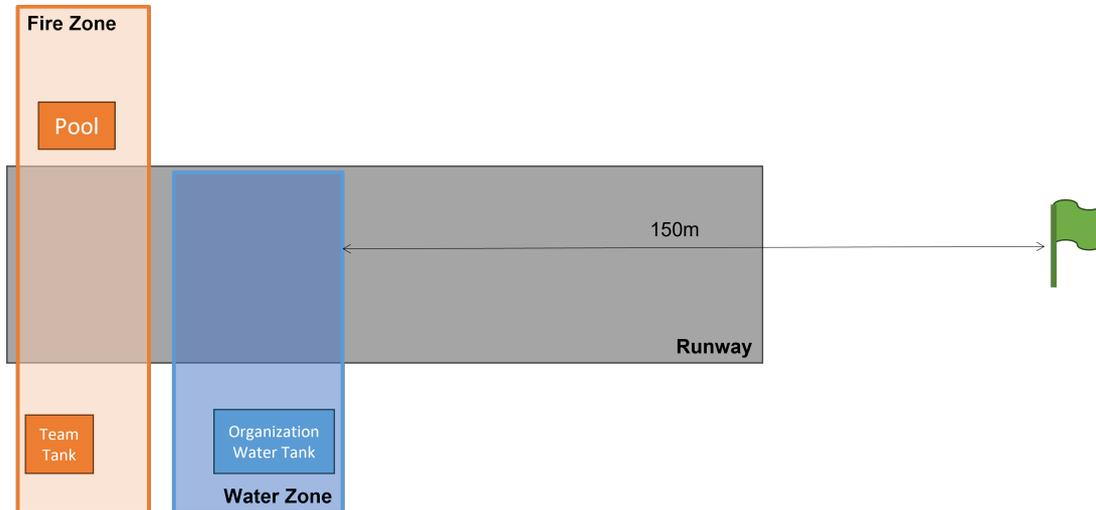

Figure 5.2: Air Drop Event Layout.
7. The runway of the two zones might be shared. However, an aircraft is considered to be operating within a single zone at a time, without access to the other. This operational layout is illustrated in Figure 5.2.
9. To transition between the Fire Zone and the Water Zone, the aircraft must first take-off and complete a 300 m course consisting of two 150 m legs, as illustrated in Figure 5.2.